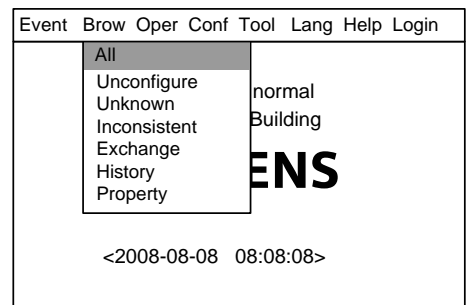
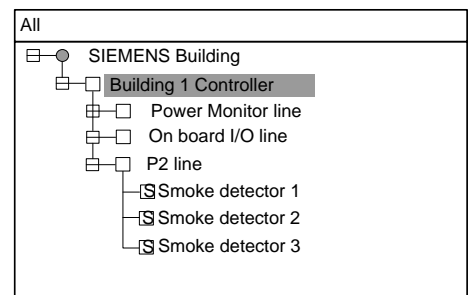

Fig.19-2
Fig.19-3
2. Press "→" to select "Browse" submenu (Fig. 19-2). Select "All" and then press "OK". Now the tree diagram will be displayed in the window (Fig.19-3).